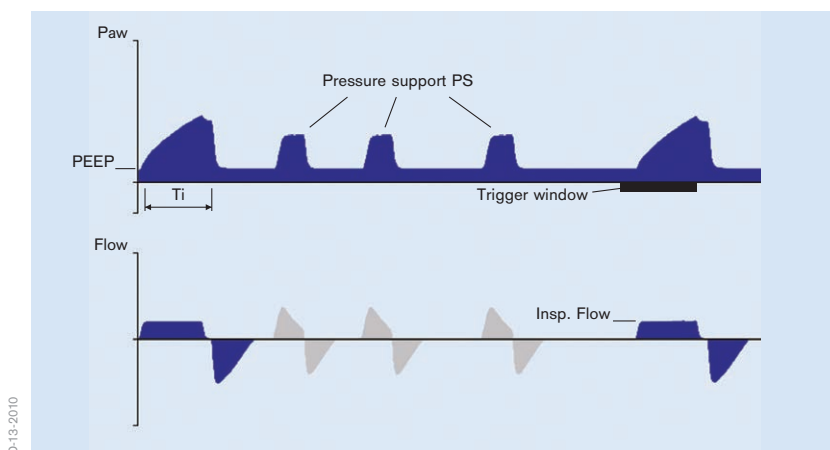

Figure 14: VC-MMV
- safeguarding the mandatory minute volume with permitted spontaneous breathing on PEEP level (Figure 14)